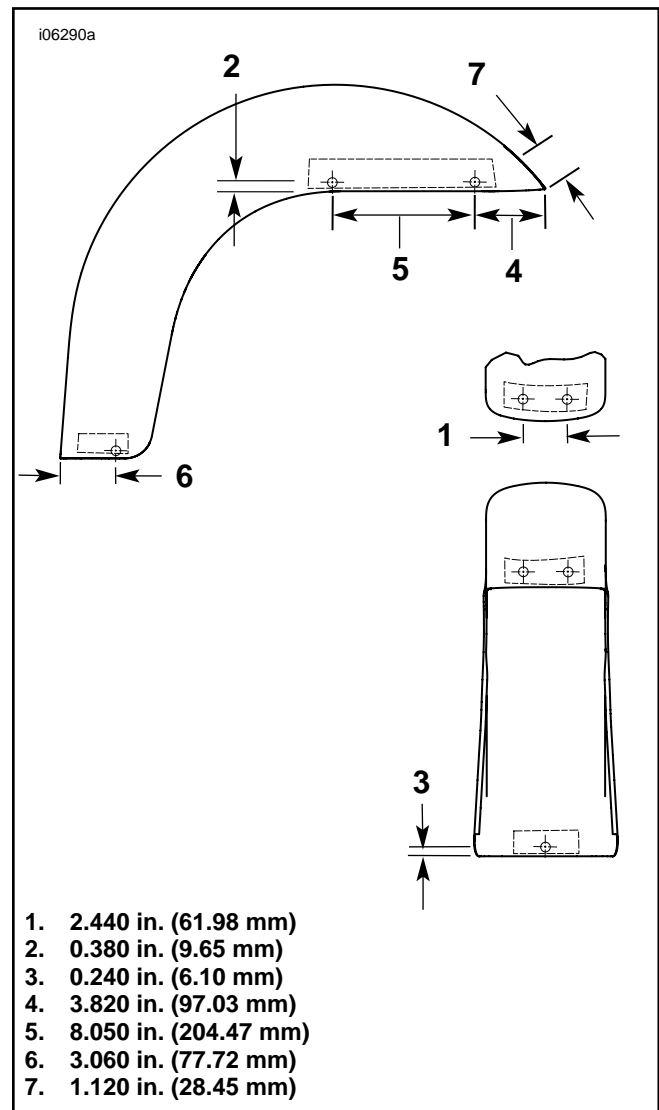

Figure 1. 0.250 in. (6.35 mm) Stud Hole Locations (dotted lines indicate masking tape)
10. See Figure 1. With masking tape, tape tip of fender, along both edges behind the fender tip, the bottom lip of the fender and along the sides at the bottom lip. Cover all 9 stud hole locations.